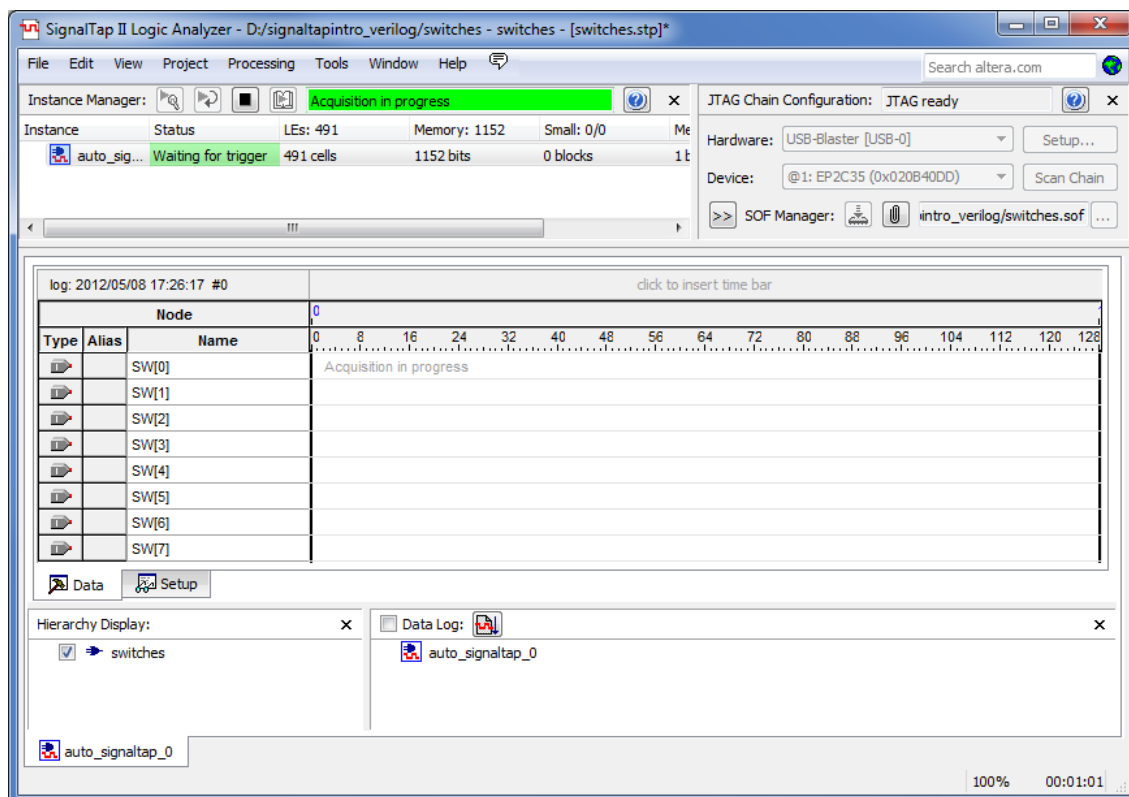

Figure 11. SignalTap II window on a DE-series board after Run Analysis has been clicked.
2. In the SignalTap window, select **Processing > Run Analysis** or click the  icon. Then, click on the Data tab of the SignalTap II Window. You should get a screen similar to Figure 11. Note that the status column of the SignalTap II Instance Manager pane says "Waiting for trigger." This is because the trigger condition (Switch 0 being high) has not yet been met. (This is of course if Switch 0 is actually low as instructed in the previous step. If it is not, set it to low and then click Run Analysis again).